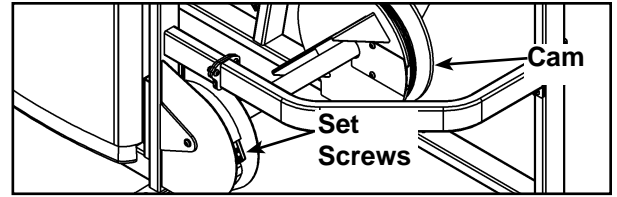

Figure 1
- D. Rotate cam and disconnect weight stack belt from cam (by loosening the two set screws on the belt clamp with a 7/32" Allen wrench). See Figure 1.
- X. Connect the weight stack belt to the belt clamp of cam (removed in step 4D). See Figure 1.